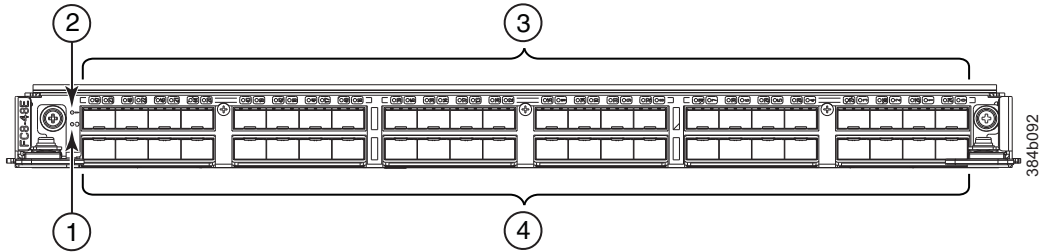

Figure 63. FC8-48E port blade
- Figure 63 on page 171 shows an FC8-48E port blade